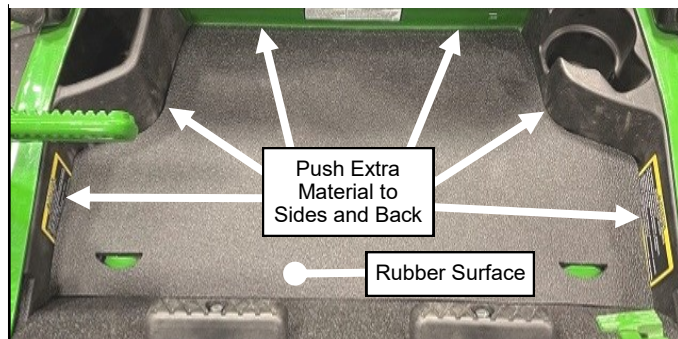

Fig. 1.17 (Install Footrest Floormat)
**1.17** Install the footrest floormat making sure the rubber is on the top surface (foam on bottom). Push the extra material into the back edge and sides to fully seal the floorboard. See Fig. 1.17.